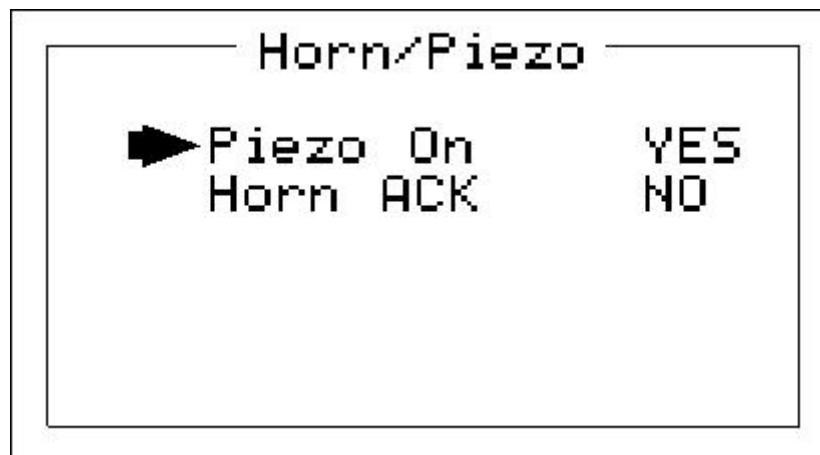

Figure 2.10
- The C2 display PCB is equipped with a small audible piezo that chirps when keys are pressed providing an audible feedback to the operator. It also may be set to audibly indicate alarm conditions by entering YES into the **Piezo On** menu item in Figure 2.10. This piezo will then mimic the **Horn** settings menus described in section 2.3.1.